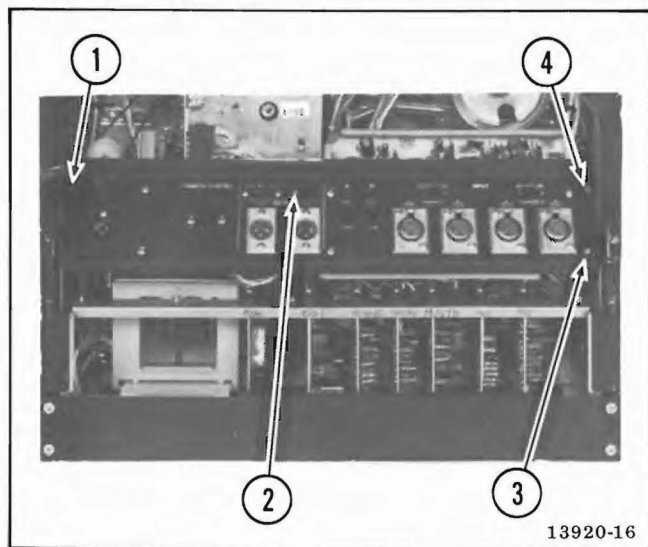

Figure 5-4. Connector Panel Screws
- Rear connector panel: Do not remove, but swing out for easy access to components. Remove four screws shown in Figure 5-4. Take hold of top of panel and gently swing out.